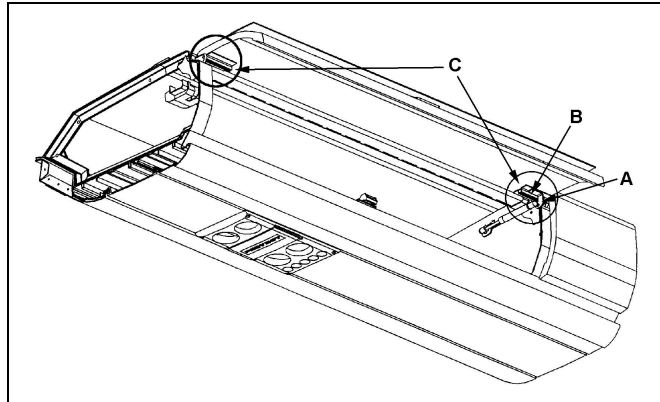

FIGURE 1: A: DOOR CYLINDER ATTACHMENT, B: PIVOT LOCKING SCREW, C: PIVOT
1. Remove the existing door. To do so, detach the door cylinder from the door, remove the pivots locking screw then remove the pivots located at each side of the door (figure 1).